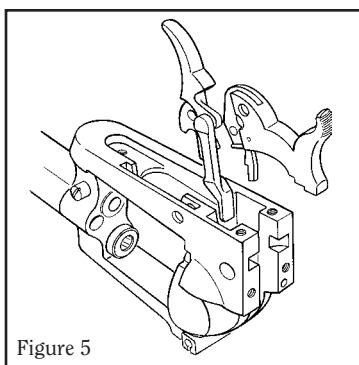

Figure 5
8. Remove the hammer pivot. Then remove the hammer/pawl assembly and the trigger/transfer bar assembly. (Note that the hammer is attached to the pawl and the transfer bar is attached to the trigger. See Figure 5).
1. Assemble pawl to hammer and transfer bar to trigger as shown in Figure 5, p. 20. Partially insert hammer/pawl assembly in its recess in the frame. Insert trigger/transfer bar assembly in its slot in the frame. Then simultaneously complete insertion of the two assemblies into the frame.